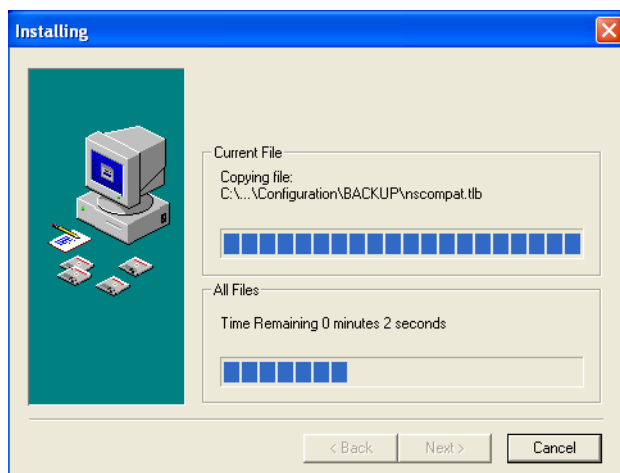

figure 8.5: Installing the software
- 5 Follow the instructions on the window, and then click [Next]. The software will start to install (see figure 8.5).